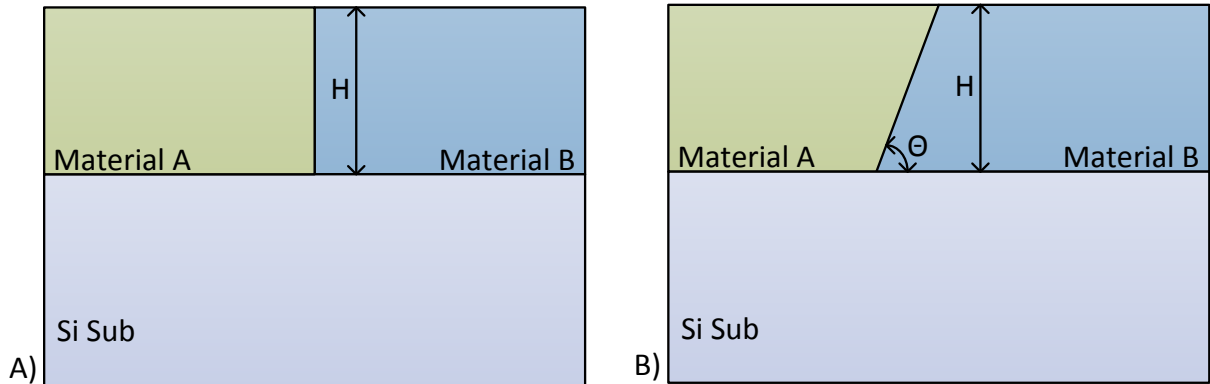

Figure PS2.4-1
4. This problem explores effect of finite lateral etch rate on the final etch profile. Assume you want to etch material A in the samples shown in Figure PS2.4-1 with etchant X. This etchant etches material A with  $ER_{A,H}$  and  $ER_{A,V}$  in the horizontal and vertical directions, respectively. The etchant is not completely selective and etches material B with vertical and lateral etch